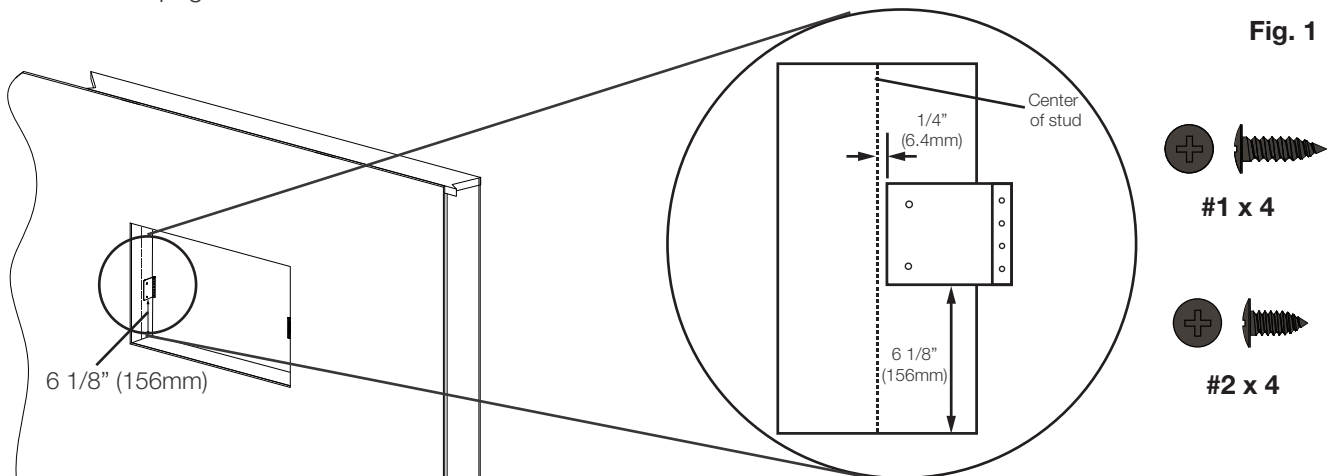

Fig. 1
- D. Install mounting bracket by aligning the edge  $1/4"$  (6.4mm) from the center of the wall sides and  $6 1/8"$  (156mm) from the bottom of the wall sides (**Fig. 1**). Use the mounting bracket installation template on the next page.